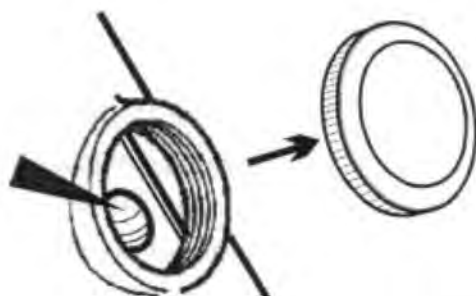

Fig. 8
5. When the polar telescope cover is removed be careful not to insert a finger in the aperture when the Dec shaft is turned to allow the polar telescope to be set up for polar alignment. After the alignment procedure is completed screw the cover back on to the mount to prevent moisture from entering the mount. Refer to Fig.8.